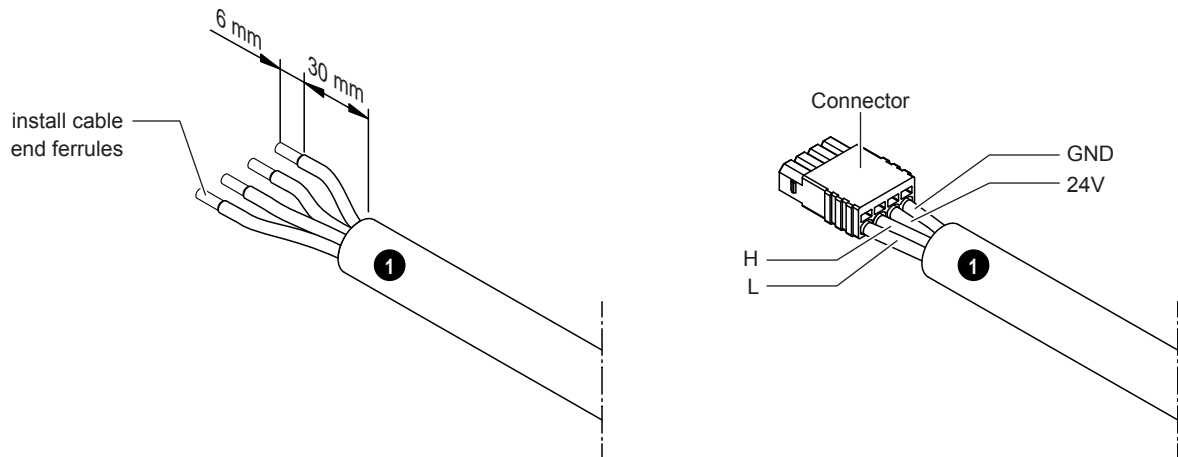
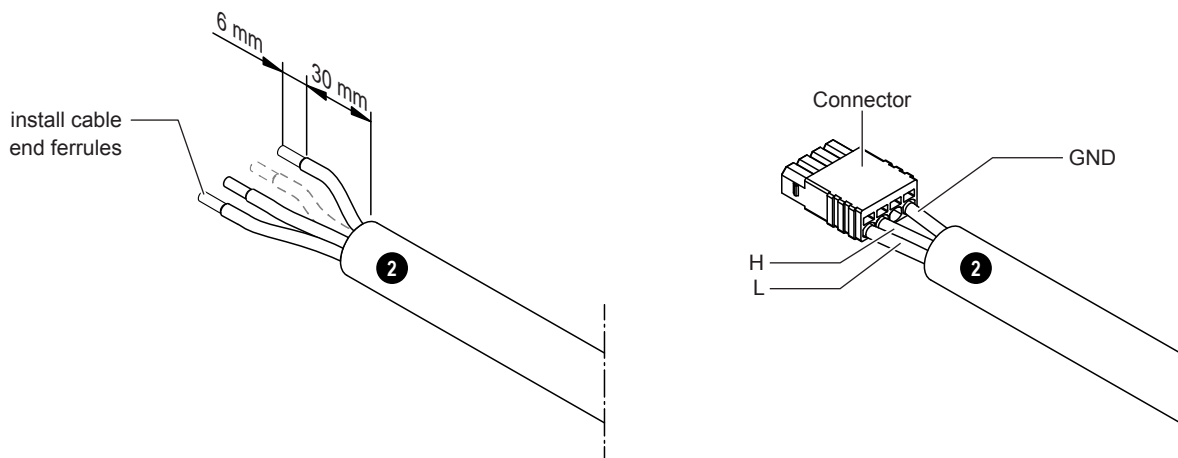

Fig. 9: Prepare CAN BUS cable for SPA Display connection
Fig. 10: Prepare CAN BUS cable for the connection between Condair Delta SPA Control Box and Condair Omega
3. Cut the CAN BUS cable(s) to length. Prepare the cable end(s) as shown in Fig. 9 (SPA Display connection) or Fig. 10 (connection cable Condair Delta SPA Control Box to Condair Omega), then connect the prepared cable ends to the the CAN BUS connectors.